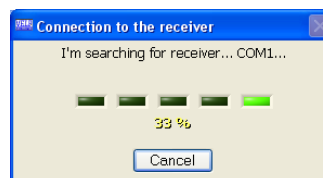

Fig. 5
2. Using the "Connect Receiver" menu with the Automatic Search option, it is possible to find and connect automatically the Wireless DataBox™ (Fig. 5).